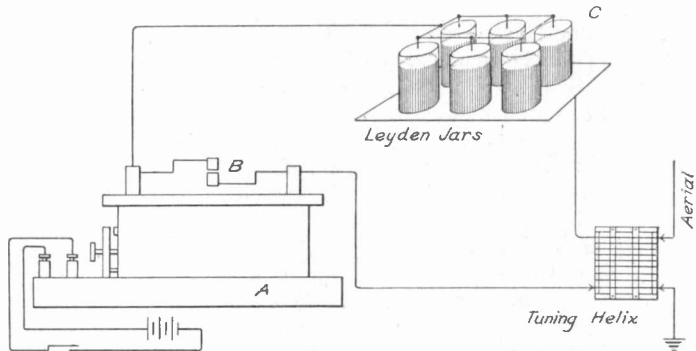
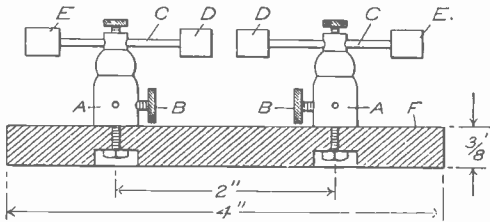

FIG. 17. CONNECTIONS OF THE LEYDEN JARS
FIG. 18. COMPLETE SPARK GAP
make good contact and not scratch the foil surface. When the rod has been placed in the upper disk, the latter should be well coated with shellac, which will hold it in place better, and give more perfect insulation. This completes work on the Leyden jar and it is evident that the remaining five are constructed in the same manner. It is not essential, however, that chemical beakers be used for any other type of thin, high grade glass jar will answer. The jars are then connected to the other apparatus as shown in Fig. 17.
The complete spark gap (B) of Fig. 17 is illustrated in detail in Fig. 18. It consists of the hard rubber base (F) with the binding posts (AA) mounted on it, and through the binding posts is run the brass
minals as shown at (B) Fig. 17. Although some experimenters prefer to mount the gap at other points, this is only a matter of choice. The Leyden jars are best mounted by first placing down a pane of glass, and